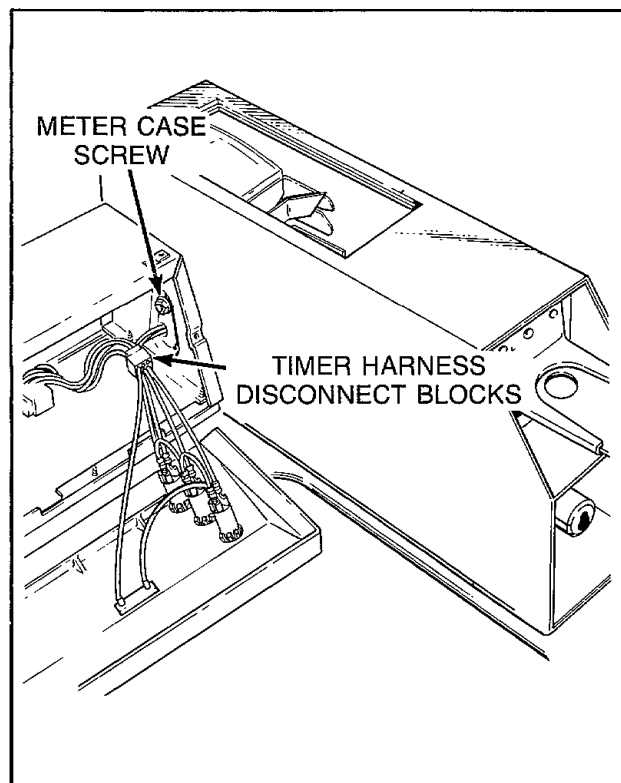

Figure 7
- Disconnect timer harness from control hood harness at disconnect blocks, *Figure 7*.
- Remove cap screw, lockwashers and nut holding meter case to end of control hood, *Figure 7*.